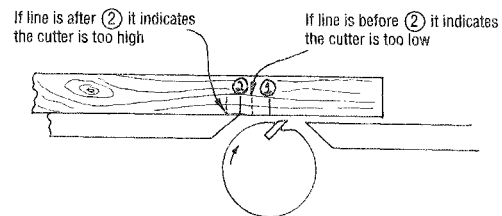

Fig. 3.51 Second position.
4. Roll the block forward by hand. As the cutter touches the strip it will lift it up and carry it forward. Make a second line where the strip is laid down (**Fig. 3.51**).